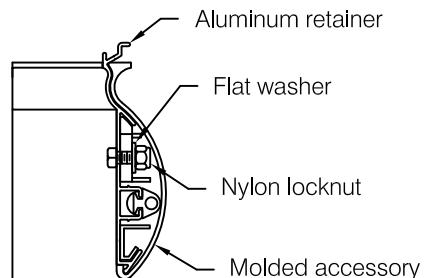

fig 10
*Caution:* Do not use a lock washer, use flat washers only. Always place a flat washer between nut and molded tab. Tighten to 10 ft-lbs maximum torque, see **fig 10**.